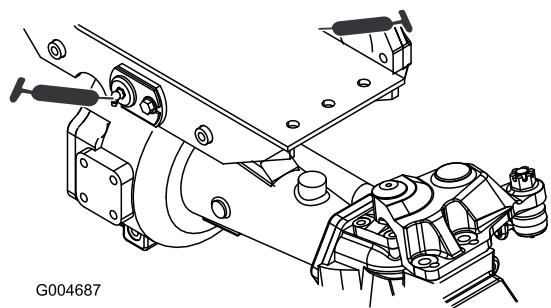

Figure 35
- 2 front and rear-axle-pivot bushings (Figure 35)